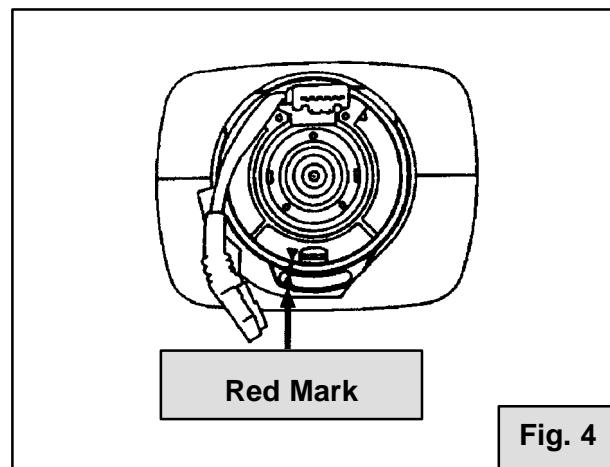

Fig. 4
- b. Then rotate the cable clockwise about 2.5 or 3 turns to align the marks. (See Fig. 4)